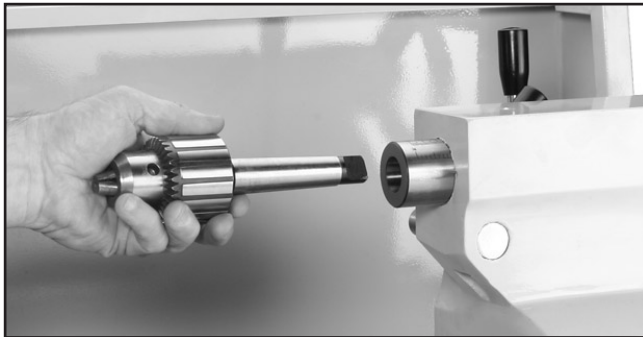
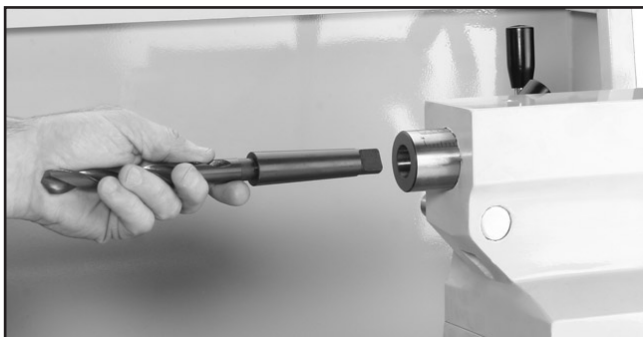

Figure 42. Typical chuck installation.
Figure 43. Typical drill bit installation.
3. Insert a tapered drill arbor (**Figure 42**), or the tapered drill shank (**Figure 43**), into the quill until the taper is firmly seated. The matching tapers hold the arbor.